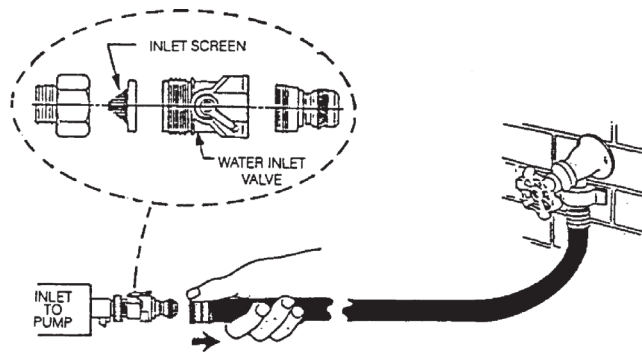

Fig. 2
2. The inlet screen must be cleaned before each use to avoid damage to the pump or pulsator. To clean the inlet screen, remove the hose by pulling back on the disconnect fitting at the water inlet valve (see Fig. 2.) Remove the water inlet valve and screen. Rinse the screen thoroughly with water. Replace the screen, water inlet valve and hose.